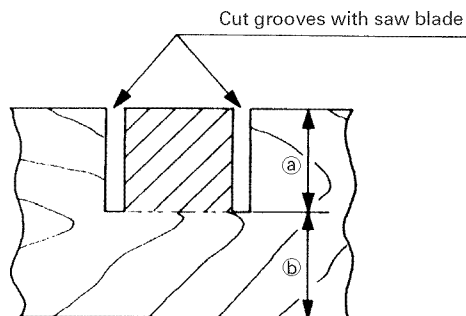

Fig. 47
Grooves in the workpiece can be cut as indicated in Fig. 47 by adjusting the 8mm depth adjustment bolt.
(1) Loosen the 8mm wing nut and turn the 8mm depth adjustment bolt by hand.
- (2) Adjust to the desired cutting depth by setting the distance between the saw blade and the surface of the base (see ⑥ in Fig. 47).
- (3) The 8mm wing nut must be properly tightened after the adjustment has been completed.